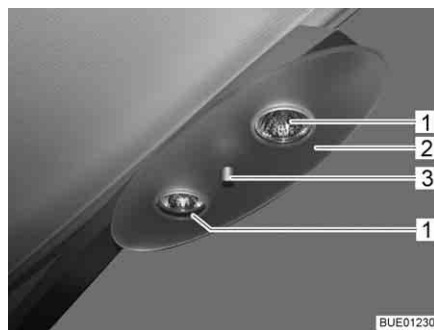

Fig. 240 Halogen ceiling lamp
- Unscrew retaining nut (Fig. 240,3) and remove cover plate (Fig. 240,2).
- Remove halogen bulb (Fig. 240,1).